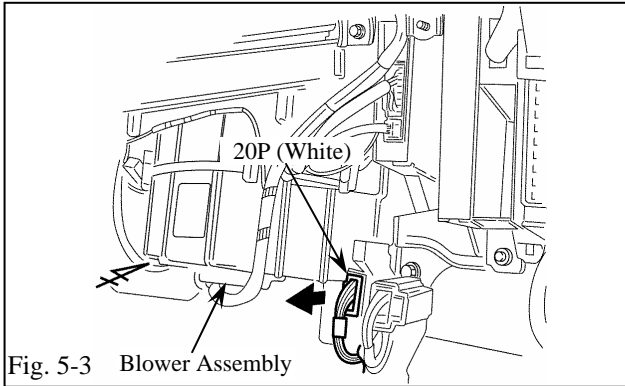

Fig. 5-3 Blower Assembly
- (e) Locate and disconnect the vehicle harness' white 20P connector on the right side of the blower assembly in the glove box area. (Fig. 5-3)